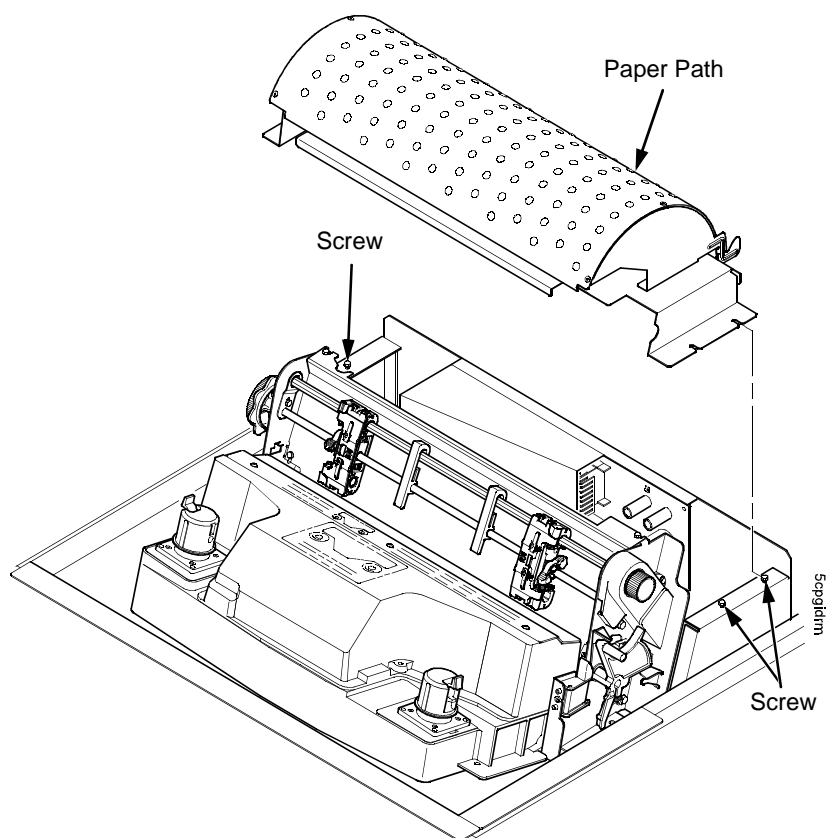

Figure 27. The Paper Path
(See Figure 27.)
1. Position the paper path offset slightly to the left on the card cage with the keyway cutouts over the three loosened screws. (See Figure 27.)
3. Tighten the screws securing the paper path to the card cage. (See Figure 27.)